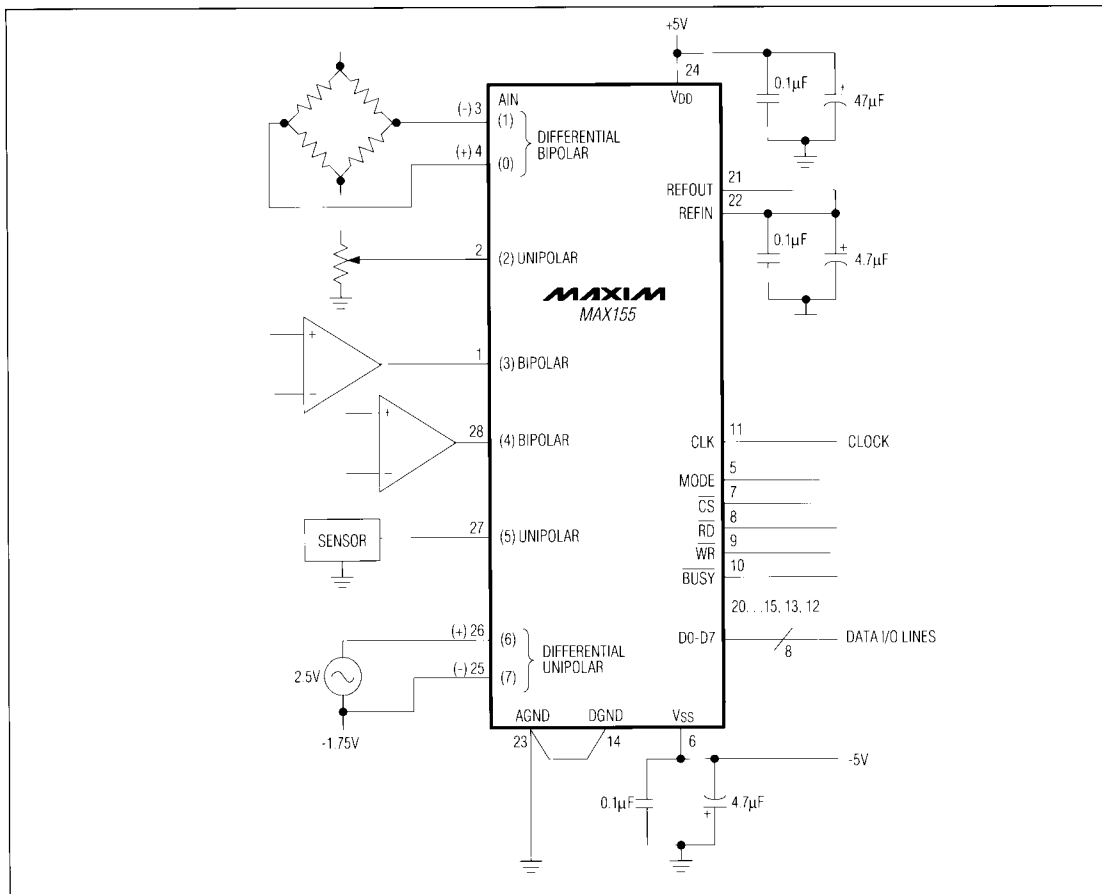

Figure 10. MAX155/MAX156 Typical Operating Circuit
where N is the number of channels converted. This includes one clock cycle of uncertainty. For a single channel and 5MHz clock, the conversion time is $(9 \times 1 \times 2)/5MHz = 3.6\mu s$. For the MAX155, the maximum conversion time for 8 channels is $(9 \times 8 \times 2)/5MHz = 28.8\mu s$. In the application example (Figure 10), six conversions are configured, and the conversion time is $(9 \times 6 \times 2)/5MHz = 21.6\mu s$.
MAX155/MAX156 address and configuration inputs for this example were determined by selecting the desired channel configurations in Tables 2 and 3. Figure 10 illustrates the configuration outlined in Table 5.
3. Data is read from RAM with $\text{INH} = \text{L}$ and consecutive RD strobes. Note that in the 6 channel configurations described in this example (Figure 10), 6 RD pulses access all available data, starting with the differential channel (1,0). Additional RD pulses loop around, accessing the lowest channel data again.